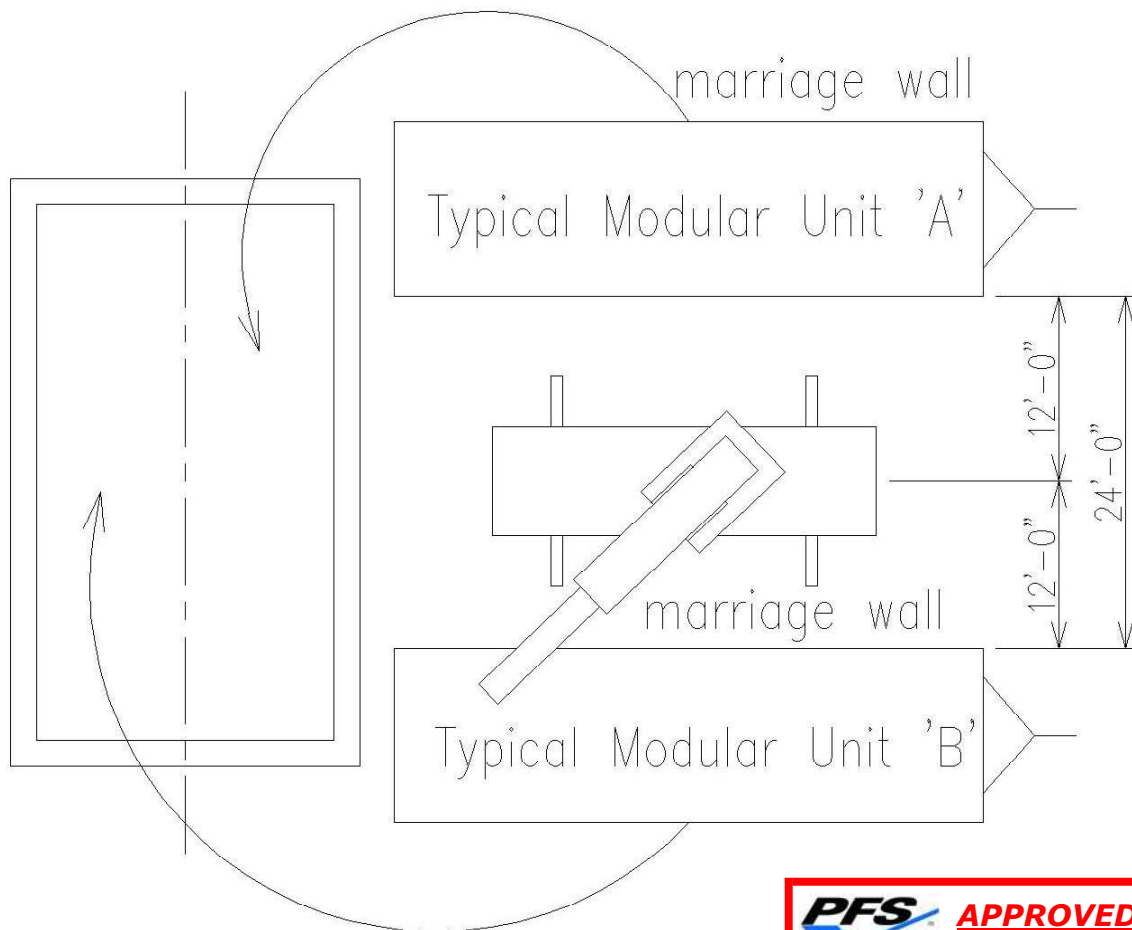

FIGURE 3
- Under ideal conditions, position modules and crane as shown in **FIGURE 3**. **To minimize crane time, locate transporters before crane arrives.** Under ideal conditions with an adequate crane, position transporters perpendicular to foundation, 24'0" apart (check with the crane company to confirm the 24' distance) centered with foundation per drawing. Position crane between transporters near foundation, perpendicular to foundation, and centered between transporters. Start with back modular first (Unit "B"). This will avoid having boom or spreader frame over unit not yet set and not having to lift over any unit.
1.4.4 FIGURE 3